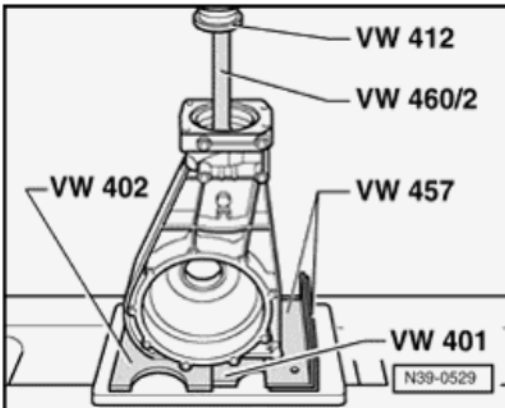

Fig. 97: Pressing Off Drive Pinion From Inner Race/Tapered Bearing
- Pressing out drive pinion. See Fig. 97